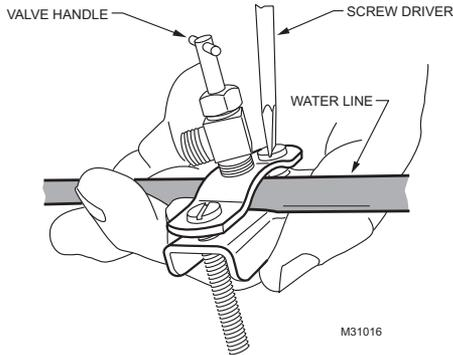

Fig. 8. Installing the saddle valve.
2. Use the self-piercing saddle valve (included) to tap into the water supply line at the location selected. See Fig. 8. If tapping into galvanized pipe, drain line and pre-drill 3/17 in. tap for saddle valve. The saddle valve is not designed to regulate water flow. The valve is either open or closed.